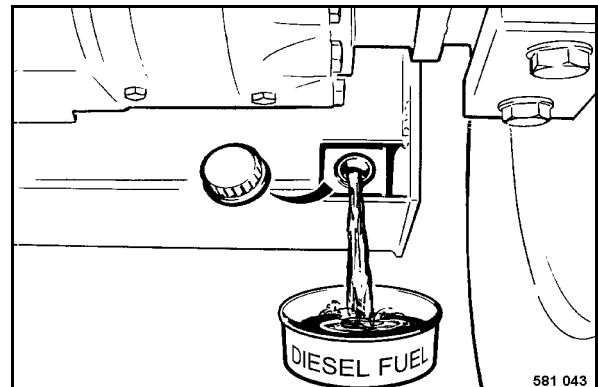

Fig. 142
- Unscrew the cap (Fig. 142) and drain off approx. 5 litres of fuel.